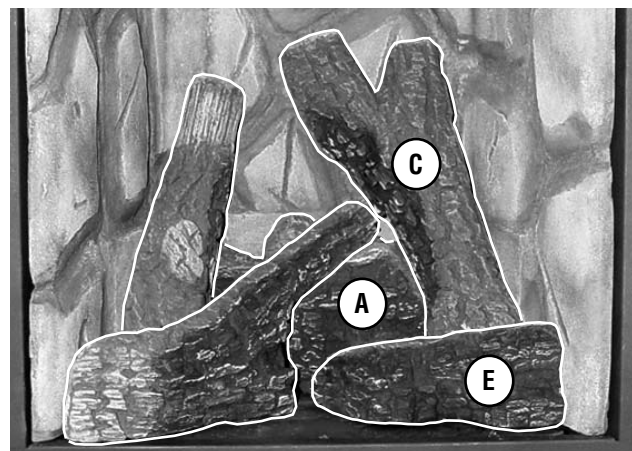

Figure 46 - Install Right Middle Log (C)
5. **Place the right middle log (C) as shown in Figure 46.** Position log C behind Log E and resting on the "flat" on Log A.